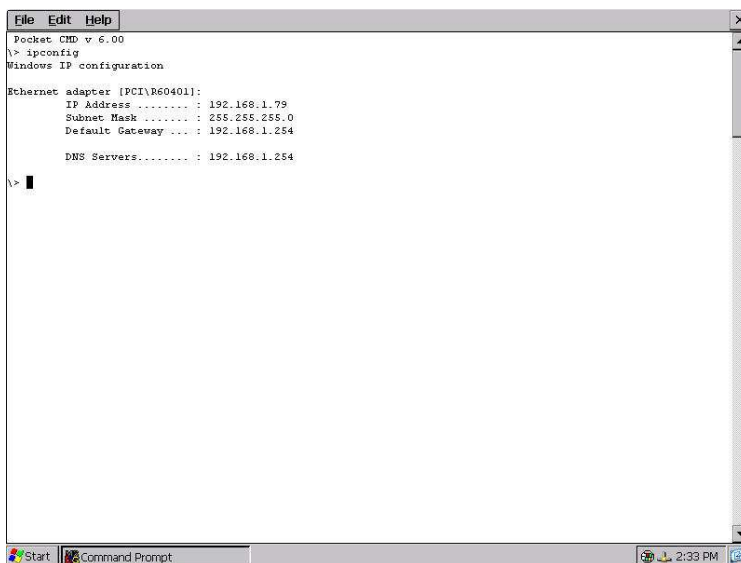

Fig. M04 - CE 6.0 console command window showing the IP address information
- From within the console command window, type **IpConfig** to show the IP address for the target device, as shown in Figure M04.